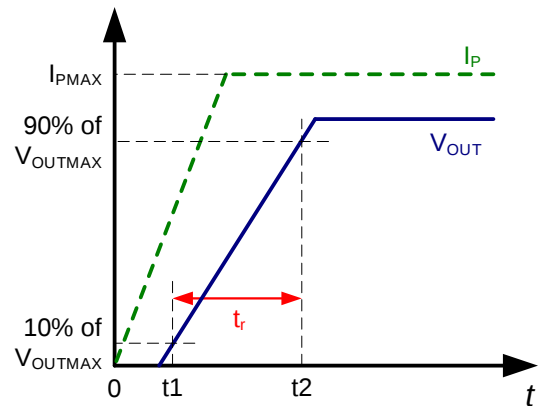

Figure 6: Rising Time (t_R)
2. t_2 : The sensor's V_{OUT} reaches 90% of its full-scale value (see Figure 6).